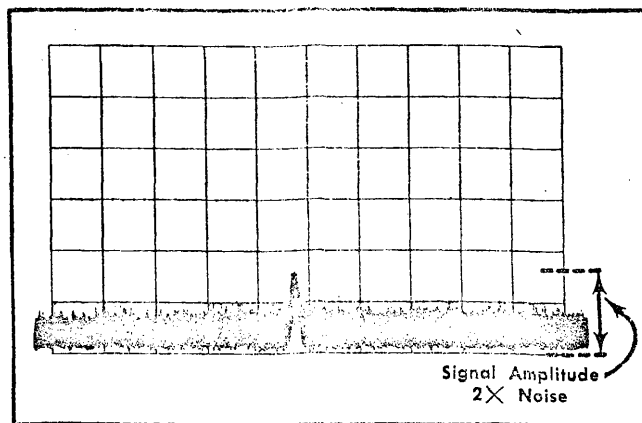

Fig. 6-28. Signal to noise ratio of 2:1 for measuring analyzer sensitivity.
f. Calibrate the Signal Generator output signal amplitude, then adjust the variable output attenuator control on the Signal Generator until the signal amplitude is two centimeters (twice the noise amplitude). See Fig. 6-28.